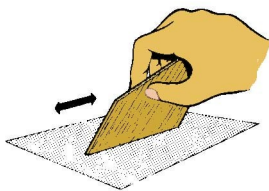

Figure 5
- **Step 9** Sand both surfaces of all twelve fins with 220-grit paper to remove any excess glue, and to remove any fuzziness in the wood. Do not gouge the wood, or sand too deeply. Round over all of the **outer** edges of the fins with 400-grit paper, but **do not** round over the **root edge** of the fins. Square up the root edge, as shown in Figure 5.